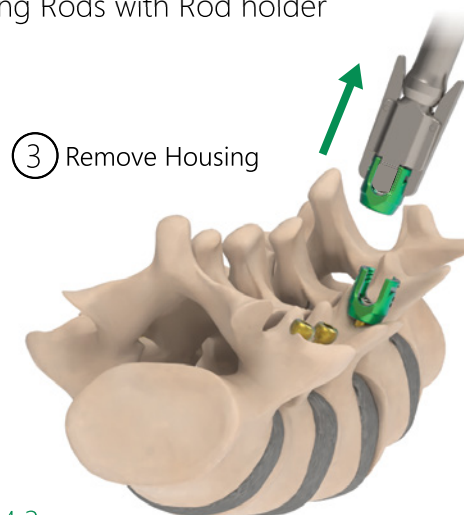

Figure 14.3
3. Attach the appropriate Tulip Removal instrument to the appropriate Housing by placing the instrument's distal tip over the Housing (Figure 14.3).